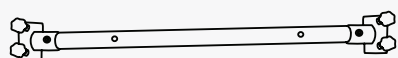
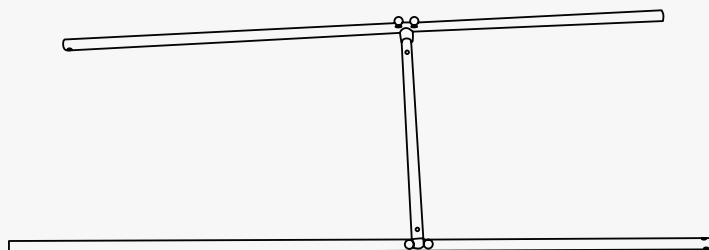
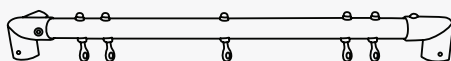
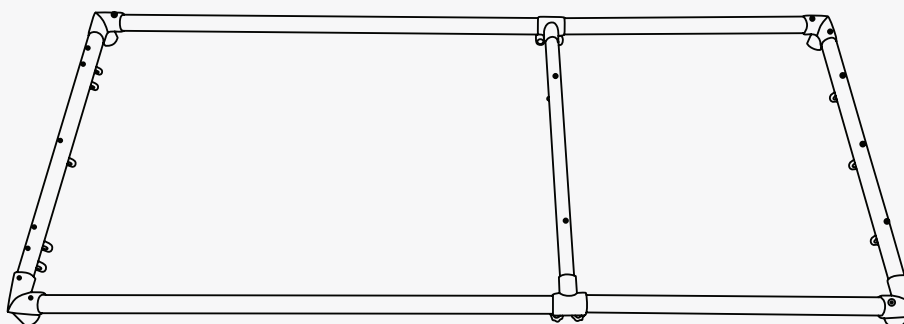

Fig 1: Horizontal Pipe &
Fig 3: Joined
Fig 4
Fig 6
2. Connect the horizontal pipe (Fig 1) & 4 pins together with the 2x long vertical pipe with no holes (Fig 2) together, securing with the 4x locking knobs (Fig 3).
3. From the previously installed parts (Fig 3), turn it so that the locking knobs are facing the ground. Then use the other two horizontal pieces (Fig 4 & 5) to install onto the long poles, forming a rectangle. (Screws are pre-installed on the parts). Note that the corners with the T pipe should be facing downward (Fig. 6). Set aside for installation later.
The Horizontal pipe with the 4x locking knobs is adjustable horizontally on the Long vertical pipe (Fig. 3).
6. Place the assembled frame in step 3 (Fig. 6) onto the top of the installed vertical pipes from step 5 (Fig. 11) and secure with the screws.